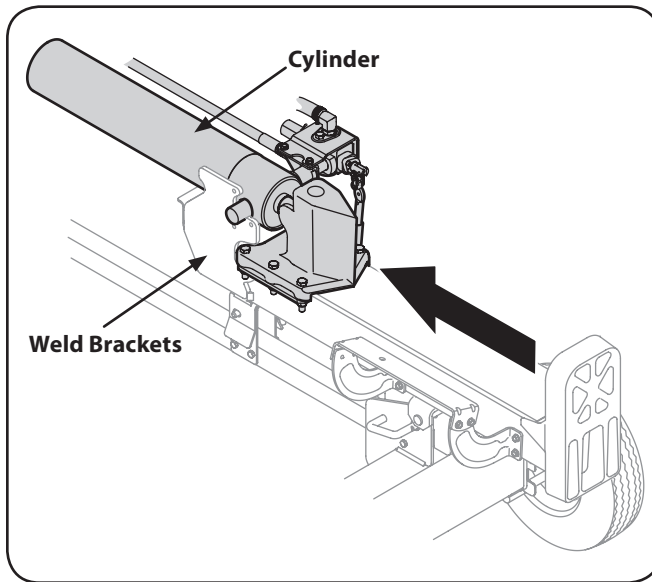

Figure 3-6
16. Lift and slide the cylinder up to the top of beam and into the weld brackets. See Fig. 3-6.